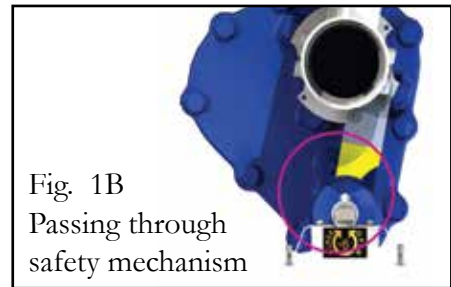

Fig. 1B
1. Close the Disc Valve (8) by attaching the "T" Key (1) to the upper end of the Operator Rod (4) and turning fully in a clockwise direction.
2. Unlock the Air Valve Assembly by rotating the Frame (3) of Air Valve Assembly in a clockwise direction - see Fig. 1B, 1C.
3. Lift and remove the Air Valve Assembly from the Valve Box (5).
1. Before inserting the Air Valve Assembly, visually inspect the two O-Rings (7) at the base of the assembly. If damaged, they must be replaced. Clean and lubricate the O-Rings lightly with silicon-based lubricant.
2. Insert the Air Valve Assembly into the Disc Valve (8).
4. Lock the Air Valve Assembly into the Disc Valve by rotating the Frame (3) of the Air Valve Assembly in a counterclockwise direction - see Fig. 1B, 1A
5. Place the "T" Key (1) inside the Valve Box (5) prior to closing the unit – close the Valve Box Cover (2) tightly on the Valve Box
1. Remove the Valve Box Cover (2).
2. Close the Disc Valve (8) by attaching the "T" Key (1) to the upper end of the Operator Rod (4) and fully turning in a clockwise direction.
3. Unlock the Air Valve Assembly by rotating the Frame (3) of the Air Valve Assembly in a clockwise direction - see Fig. 1B, 1C.
4. Lift and remove the Air Valve Assembly from the Valve Box (5).
1. Before inserting the Air Valve Assembly, visually inspect the two O-Rings (7) at the base of the assembly; if damaged, these must be replaced. Clean and lubricate the O-Rings lightly with silicon based lubricant. Clean and remove debris from the housing area.
3. Lock the Air Valve Assembly into the Disc Valve by rotating the Frame (3) of the Air Valve Assembly in a counterclockwise direction - see Fig. 1B, 1A